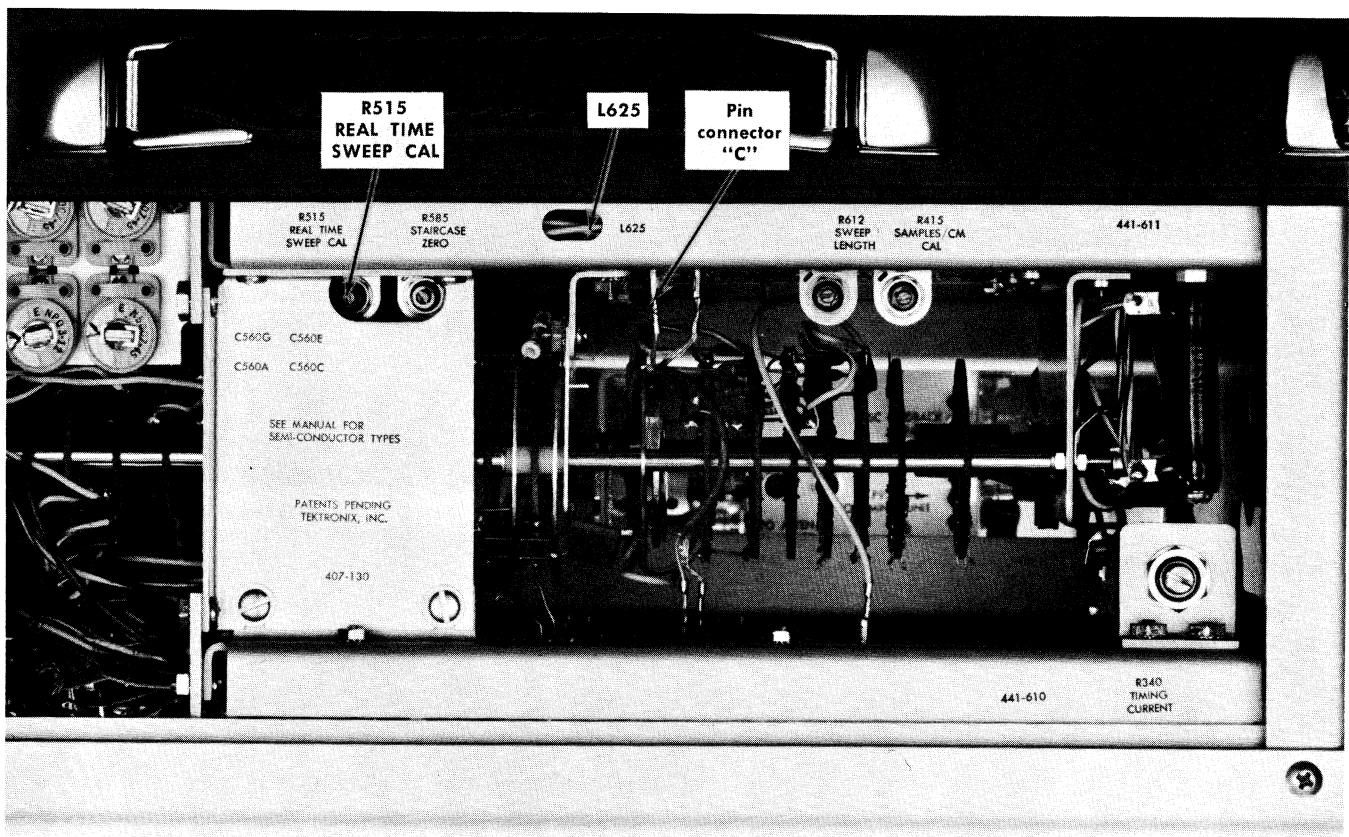

Fig. 5-16. Real-time sweep calibration and clock adjustments.
- g. **Adjust** R515 (REAL TIME SWEEP CAL) if the display is not correct. The location of R515 is shown in Fig. 5-16.
g. **Adjust** L625 (see Fig. 5-16) if the display is not approximately correct. The more widely the pulses are spaced, the closer the frequency is to 100 kc.
a. Connect the test probe to pin connector "C" on the sweep circuit etched-wiring board. See Fig. 5-16 for the location of pin "C".